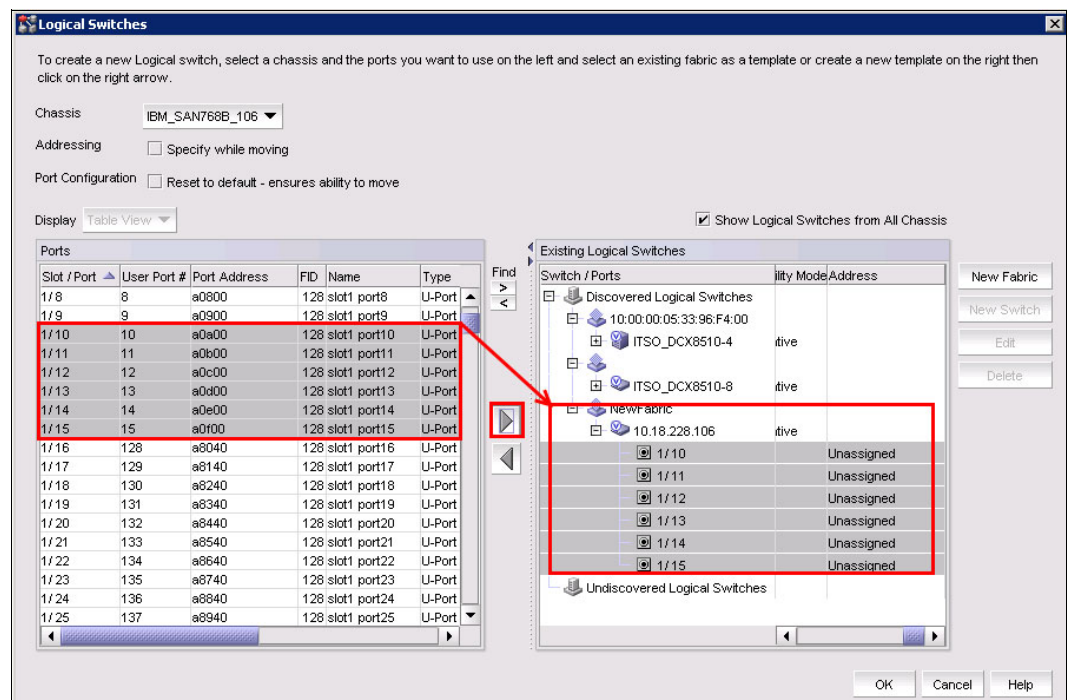

Figure 8-14 Add ports to logical switch
6. From the logical switch window, select the new logical switch and add the ports that are required for this switch by selecting them and adding them to the newly created logical switch, as shown in Figure 8-14. This process can be used at any time to add or delete ports from the logical switch.